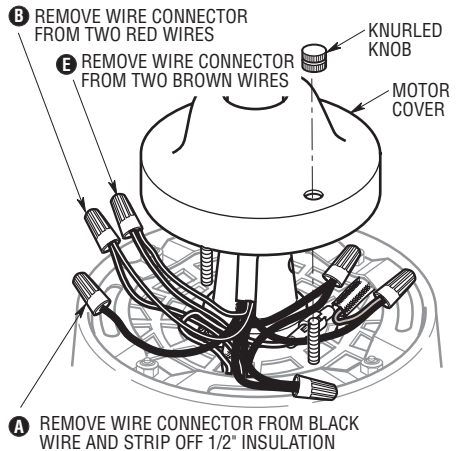

Figure 1
1. Remove the two knurled knobs securing the motor cover to the top of the motor (Figure 1)
2. Raise the motor cover up the downrod to expose the wiring under the cover. Refer to Figures 1 and 2 and the following wiring diagrams, Figures 3 and 5, and make the following changes:
- (A) Remove the wire connector from the black wire (Figures 1 and 3). Strip back insulation 1/2-inch from the end of the black wire.
- (B) Remove the wire connector joining the two red wires (Figures 1 and 3) and separate the wires.
- (E) Remove the wire connector joining the two brown wires (Figures 1 and 3) and separate the wires.
3. Slide the motor cover down the downrod and secure using the knurled knobs previously removed (Figure 1).